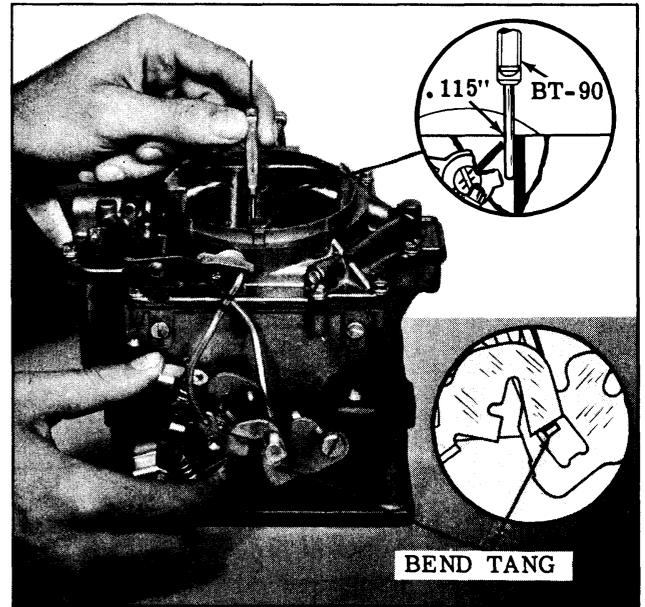

Fig. 8-109 Unloader Adjustment
2. While holding the throttle lever to the full open position, check the clearance between the top edge of the choke valve and dividing wall with gauge BT-90. (See Fig. 8-109) The clearance should be .115".